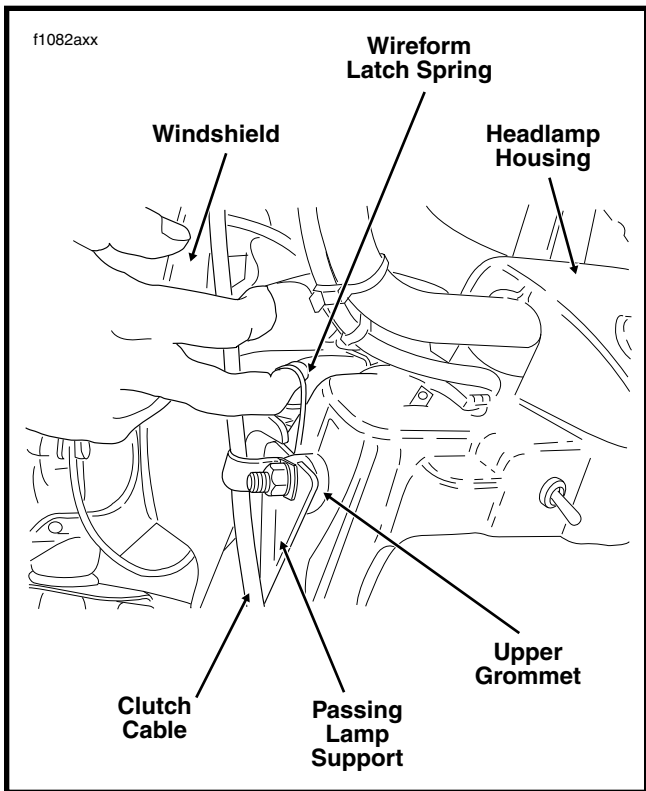

Figure 44. Detachable Windshield (Left Side View)
1. See Figure 44. Use a finger to raise the wireform latch springs on each side of the windshield.
2. Standing at the front of the vehicle, gently push the top of the windshield toward the rear until the upper notches fully engage the upper grommets. See Figure 44.